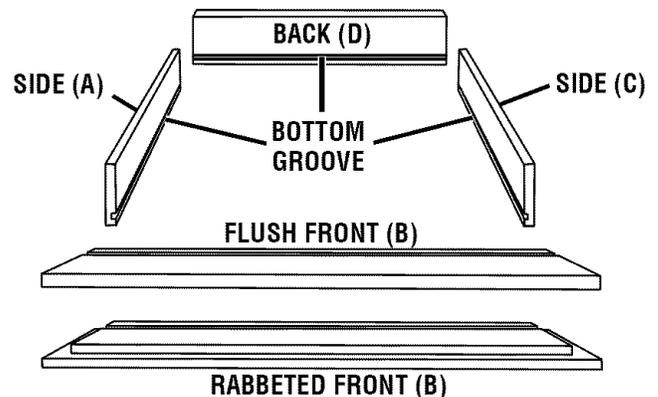

Fig. 11
- Mark the boards for the drawer or box on the inside with identifying letters near the bottom edge. See Figure 11.